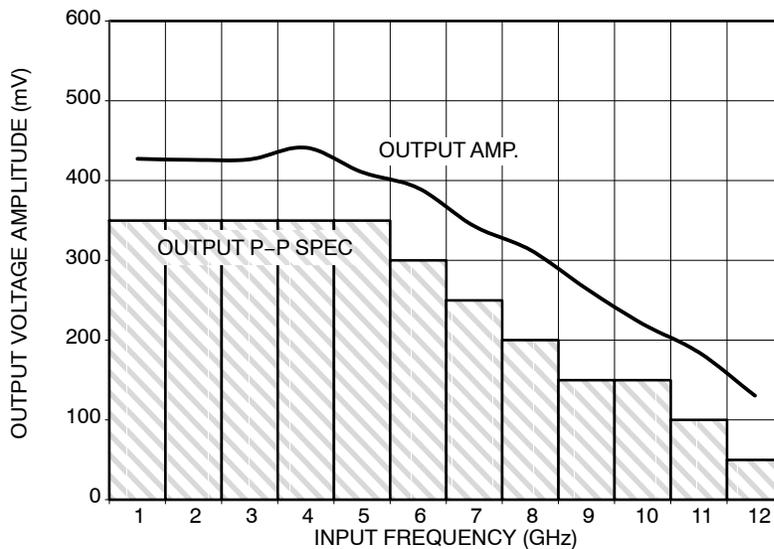

Figure 4. Output Amplitude (V_{OUTPP}) vs. Input Frequency (F_{IN}) at Ambient Temperature (Typical)
22. Measured using a 500 mV source, 50% duty cycle clock source. All loading with $50\ \Omega$ to $V_{CC} - 1.5\text{ V}$ for BGA package. For minimum f_{max} value of 10.709 GHz, output amplitude is approximately 200 mV (as shown in Figure 4, where output P-P spec is shown as a minimum/guarantee of around 150 mV). Input edge rates 40 ps (20% – 80%).
27. Measured using a 500 mV source, 50% duty cycle clock source. All loading with $50\ \Omega$ to $V_{CC} - 2.0\text{ V}$ for QFN package. For minimum f_{max} value of 10.5 GHz, output amplitude is approximately 200 mV (as shown in Figure 4, where output P-P spec is shown as a minimum/guarantee of around 150 mV). Input edge rates 40 ps (20% - 80%).